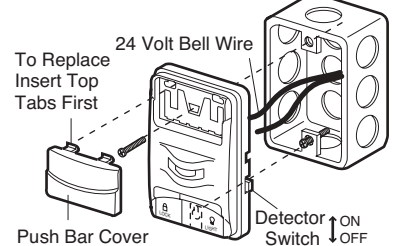

Figure 4
2. Remove white cover by gently prying at slot in side of the cover with a small flat head screwdriver (Figure 4). Fasten with 6ABx1-1/4" self-tapping screws (drywall installation) or 6-32x1" machine screws (into gang box) as follows: